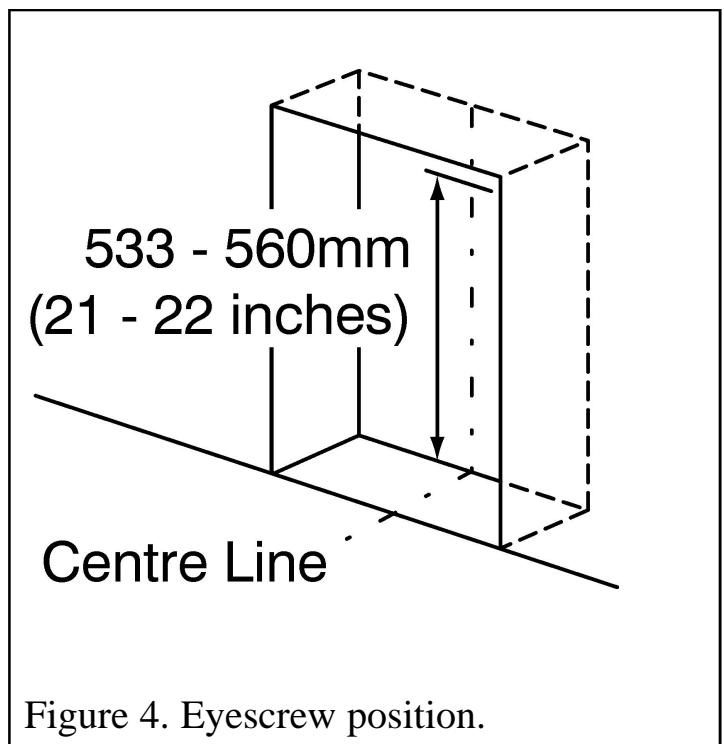

Figure 4. Eyescrew position.
2. Mark the eyescrew position on the centre line at the back of the fireplace opening and at a height of 533-560mm (21 inches - 22 inches) (See figure 4).